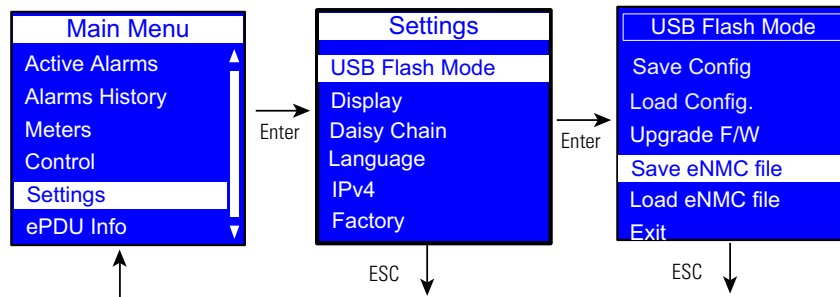
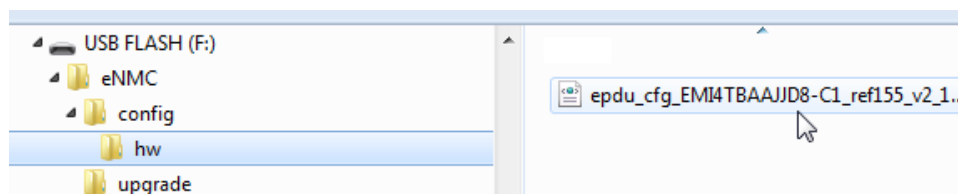

Figure 72. Example Save eNMC File
Figure 73. Verify HW File at USB Root
4. Select Save eNMC file to save the ePDU hardware configuration file to the USB drive (see Figure 72). The file will save to the eNMC/config/hw path at the USB drive root directory (see Figure 73).).